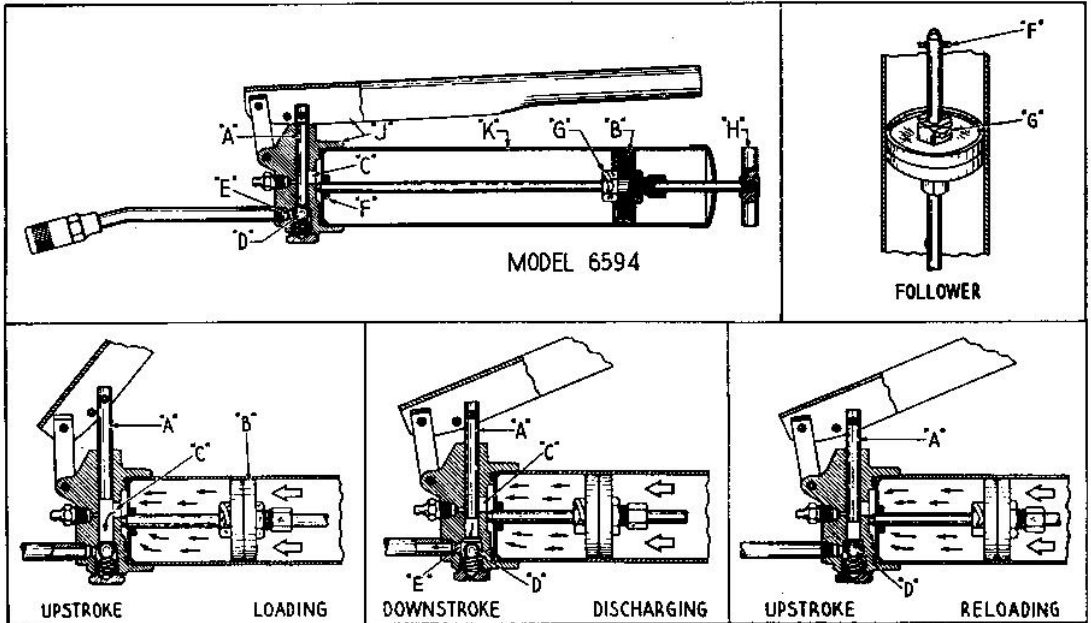

FIG. 2 - Operation of the 6594 Gun.
The Model 6594 Gun (Fig. 2) delivers lubricant at pressure of up to 7000 lbs. per square inch in the following manner:
- a. Engage cross pin "F" (Fig. 2) at lower end of follower rod with bayonet coupling "G" of follower. This is accomplished by pulling back on handle "H" and turning handle counter-clockwise until pin is seated firmly in the follower coupling (see Fig. 2).
CAUTION: Gun cannot be filled unless piston clears port "C" (Fig. 2).
- a. Unthread head and lever "J" from the cylinder "K" (Fig. 2).
- b. Engage follower (see Method 1), paragraph (a) this section) and push follower rod in, to a full stop, so that follower is at open end of the cylinder "K" (Fig. 2).